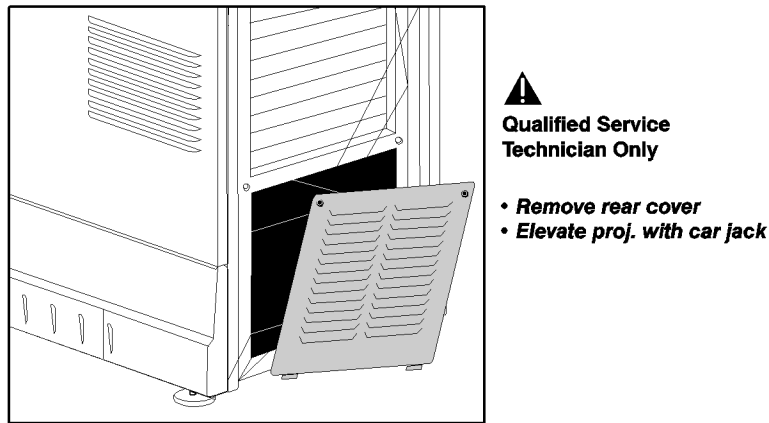

Figure 2-30 Open Rear of Pedestal
3. Remove the rear bottom panel (2 top screws, 2 bottom tabs) from the CP pedestal (**Figure 2-30**).